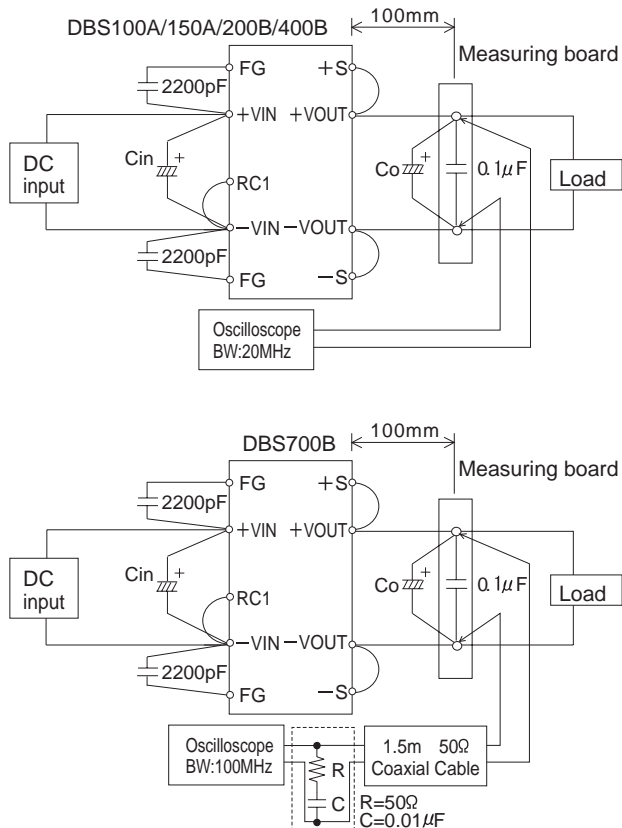

Fig.3.5 Method of Measuring Output Ripple and Ripple Noise
■ The specified ripple and ripple noise are measured by the method introduced in Fig.3.5.